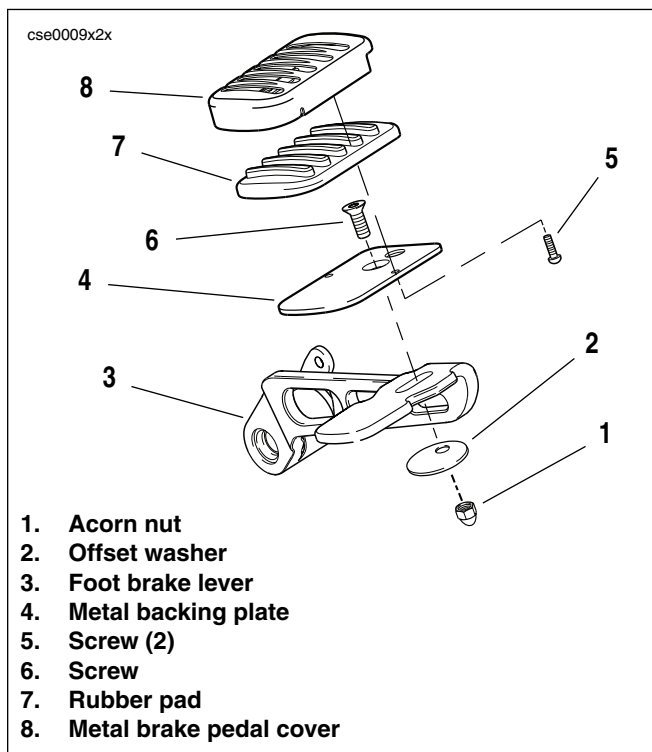

Figure 2-6. Rear Brake Pedal
1. See Figure 2-6. Remove screws (5), brake pedal cover (8) and pad (7) from metal backing plate (4).
2. Remove acorn nut (1), offset washer (2) and metal backing plate from foot brake lever (3).